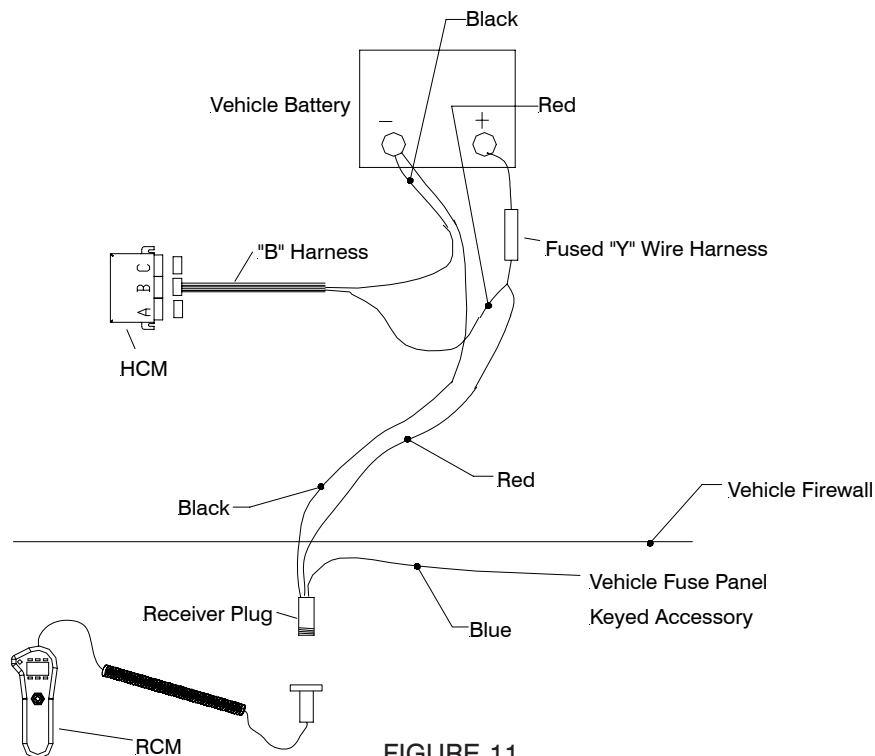
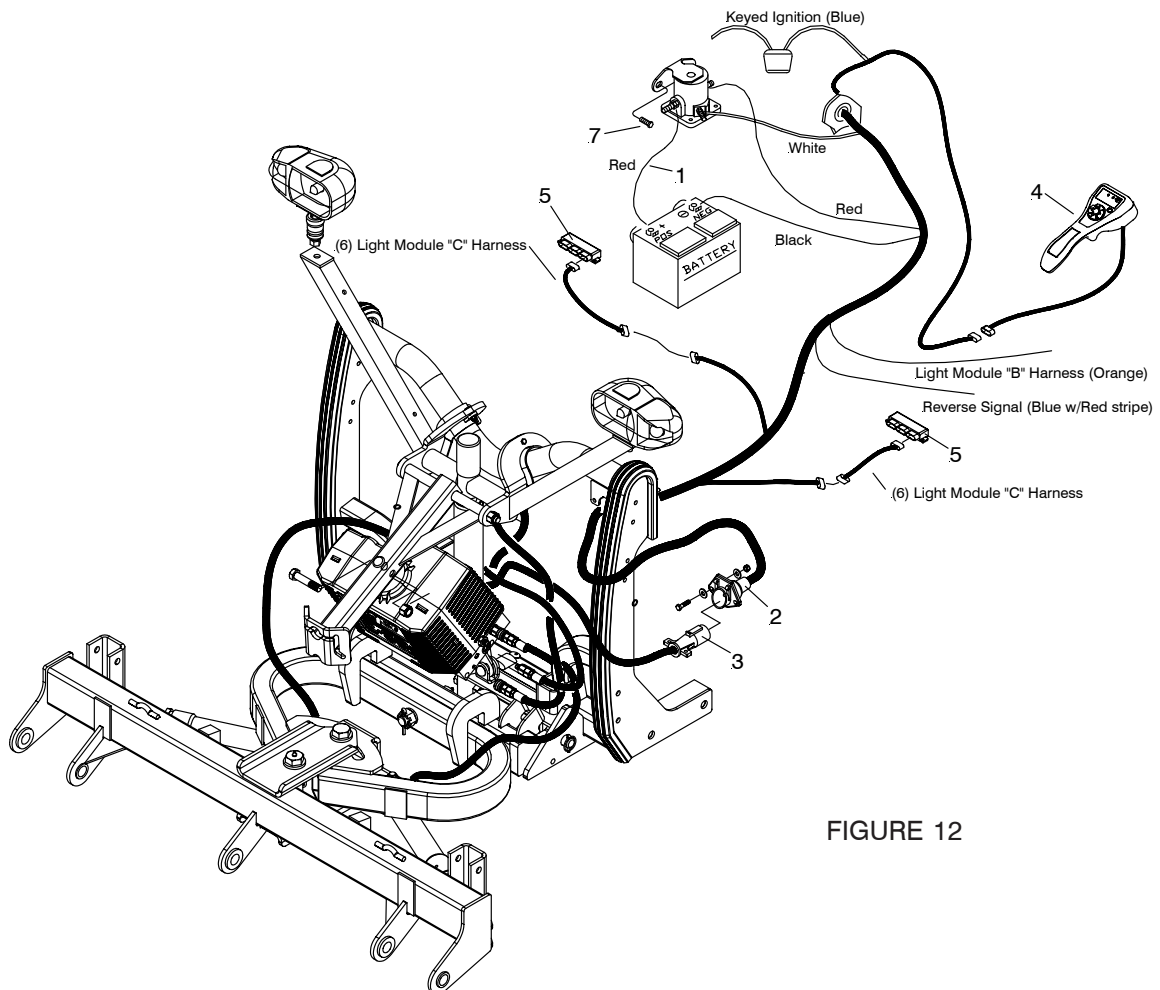

FIGURE 11
FIGURE 12
- Re-assemble E-68 unit to mount cylinder. **NOTE: Route hydraulic side harness (3) up and around the back side of the mount/dismount cylinder towards the driver's side of the vehicle. See figure 12.**
- Connect both male ends from the snow plow light to the female ends on the Plow Side Trailer Style Harness (3).
- Remove HCM (Headlight Control Module 22475) from vehicle along with the T-Adapter (extension for headlight adapter) and "B" Harness from vehicle. (See figure 11) **Do Not Discard.**
- Remove RCM (Remote Control Module 22473 or 08836) along with Fused "Y" Wire harness and Receiver Plug from vehicle. (See figure 11) **Do Not Discard.**